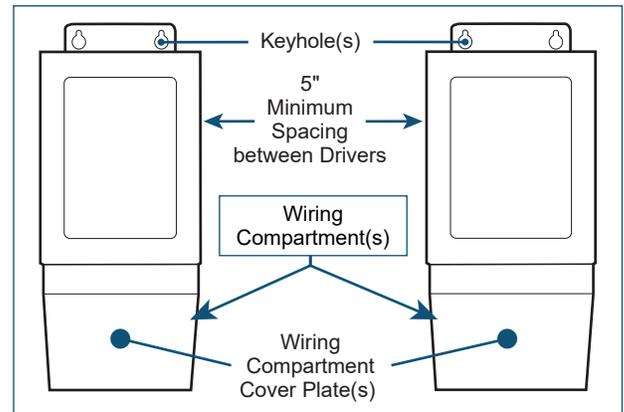

Figure 1
Select a suitable location capable of supporting the weight of the driver. Use the two keyholes in the wire housing when mounting (see Figure 1). It is recommended that the driver be mounted vertically, with the wiring compartment pointing down (Figure 1). The recommended spacing between drivers is 5".
1. Remove wire compartment cover plate (Figure 1).